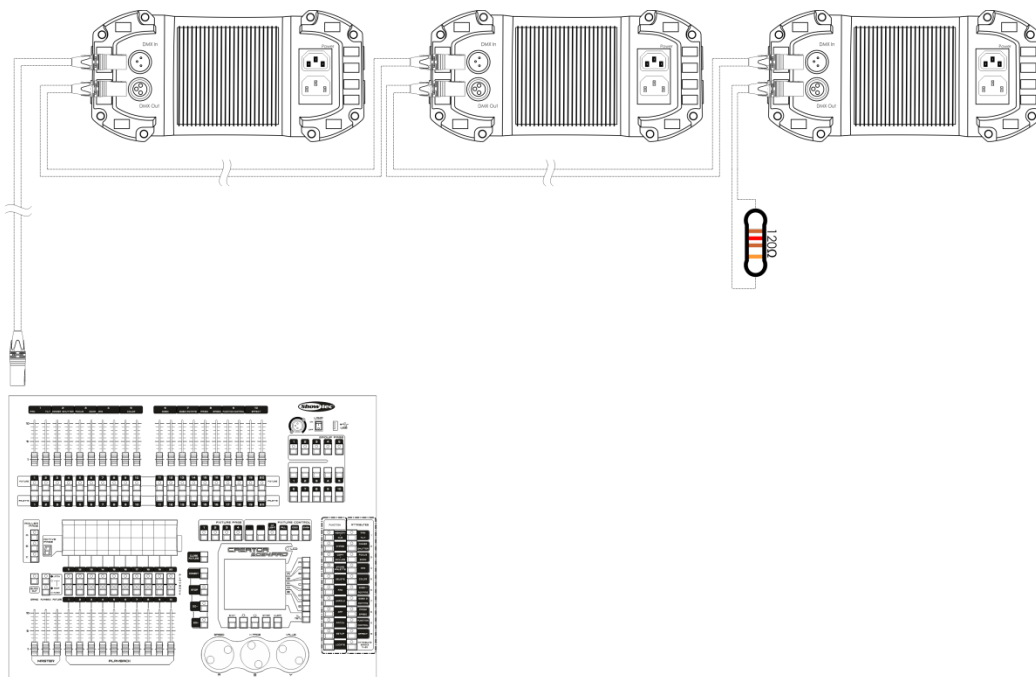

Fig. 04
- 05) Link the units as shown in (Fig. 04), Connect a DMX signal cable from the first unit's DMX "out" socket to the second unit's "in" socket. Repeat this process to link the second, third, and fourth units.